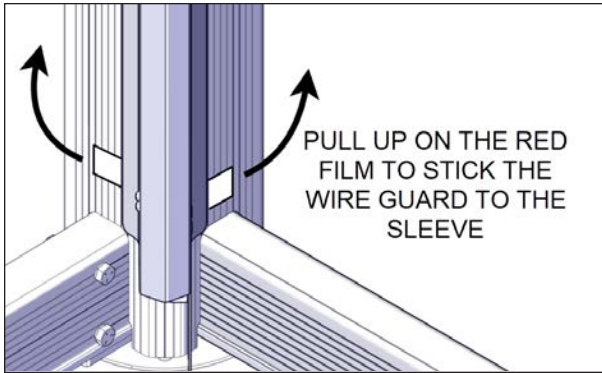

FIGURE 60: RED FILM REMOVAL
14. While still holding the wire guard on the post, gently start peeling away the red film one side at a time. This method will ensure proper alignment. Hold for at least one minute to ensure a proper bond see Figure 60.